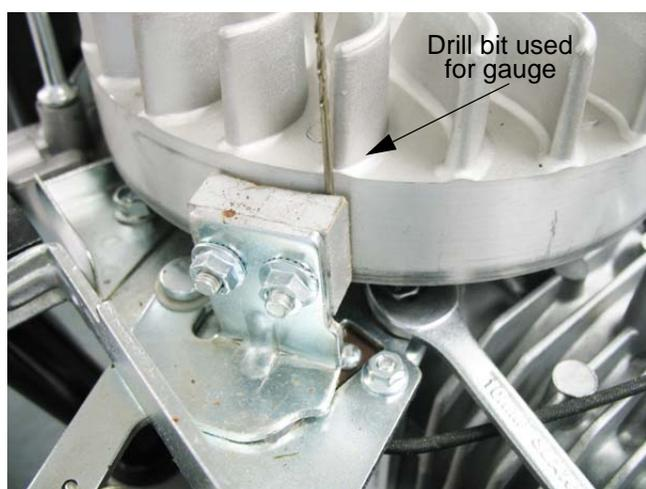

Figure 7.21
5. Position the brake assembly so that the edge of the brake pad that is nearest the slotted hole is roughly 0.050" (1.27mm) from the flywheel, then tighten the screws. See Figure 7.21.